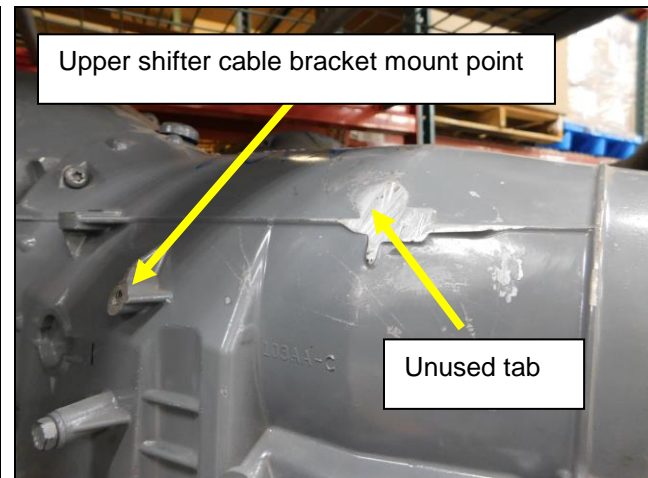

Figure 2
2. Trim off the upper transmission shift cable mount and unused tabs from the transmission case as shown in **Figure 2**. Installation of the B&M PN: 81188 shifter cable bracket will use the two lower mounting points. OE shifter PN: 4578584AD will require a custom bracket for the cable mount.